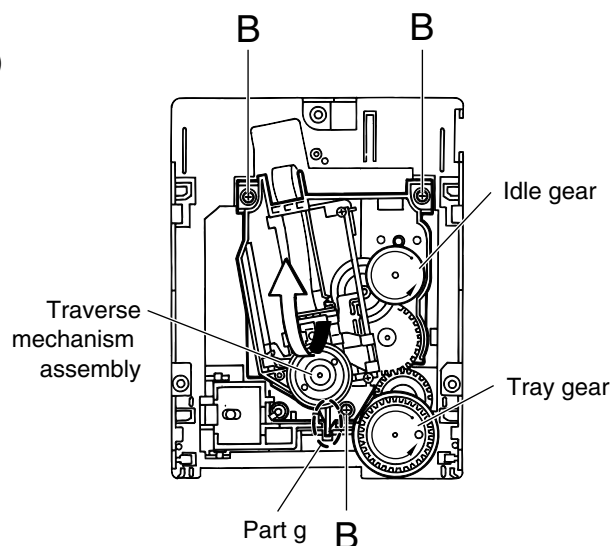

Fig. 6
■ Removing the traverse mechanism assembly (See Figs. 6 to 9)